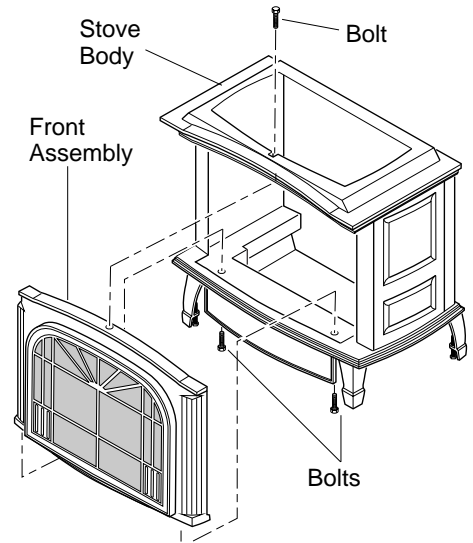

Figure 14 - Removing Front Assembly
14. Remove 2 bolts from bottom of stove and one from the top of the stove to remove the front panel assembly (see Figure 14).